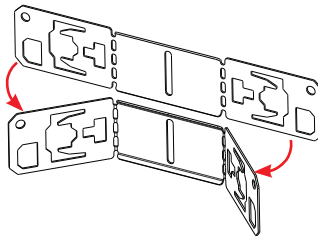
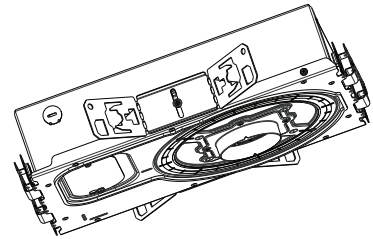

fig. 6
fig. 7
- a. Use pliers to bend the flanges of the butterfly bracket along the perforated line to the desired angle for the mounting channel / bracket (note the direction of bends in fig. 6 and fig. 7).